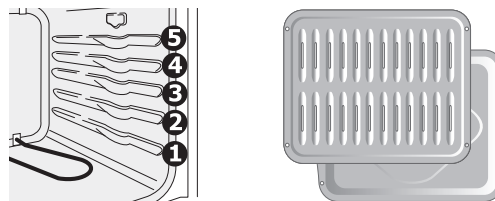

Figure 6: Rack positions (L) and broiler pan (R)
4. Place the insert on the broil pan, then place the food on the broil pan insert (See Figure 6).